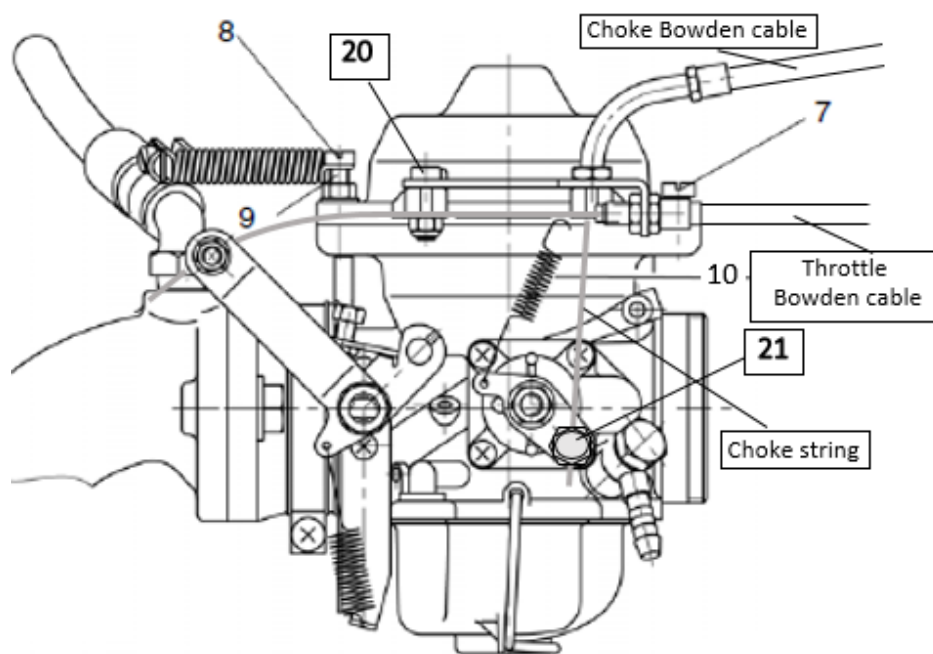

Fig. 1: Rotax 912 carburetor
6. Remove the oval head screw (20), see Fig. 1.
7. Loose the choke screw (21) and release the choke control string, see Fig. 1.
10. Screw and fix the oval head screw (20), see Fig. 1.
11. Install the choke control string and fix the choke screw (21), see Fig. 1.